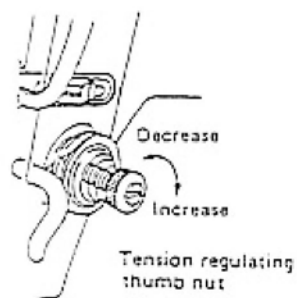

Figure 3.5
3.5 Upper Thread Tension (Figure 3.5)